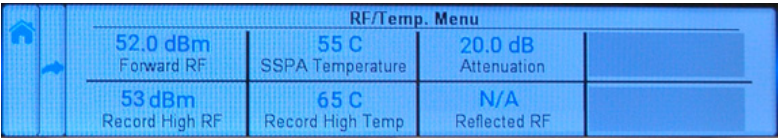

Figure 10: Status > RF/Temp Menu
4. The Forward RF value is displayed at the top left of the screen. See Figure 10.